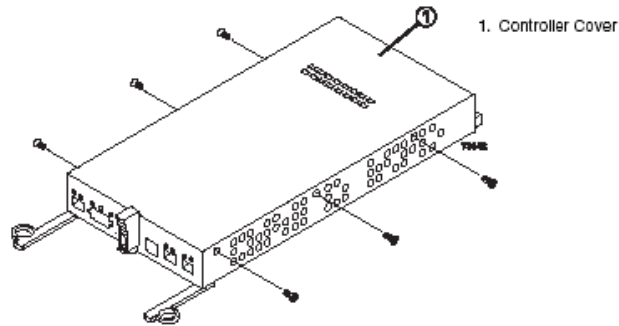

FIGURE 7-17 Removing the Controller Cover (Upside Down View)
- a. Turn the controller upside down, remove the screws securing the controller cover, and remove the cover. Figure 7-17 shows the cover and screws.
- g. Replace the controller cover and secure the screws. Figure 7-17 shows these screws.**